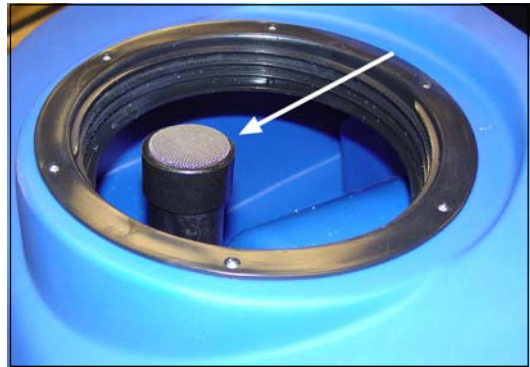

Figure 30
3. Make sure the filter screen (1) to the vacuum motor is clean and installed properly in the recovery tank (see figure 30).